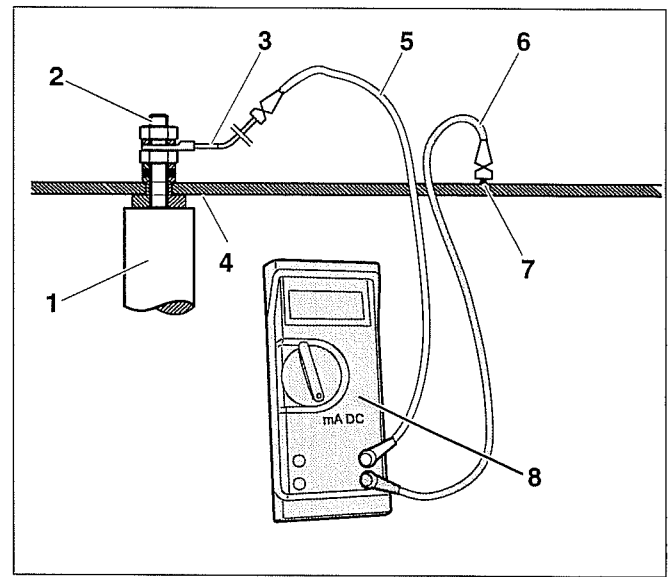

Fig. 17 Testing the anode with an multi-meter
- Remove one side of the grounding lead (Fig. 17, **Item. 3**) on the tank.
- Set multi-meter (MM) to DcmA (milli amps)
- Connect black cable (Fig. 17, **Item. 6**) of MM to grounding cable or bolt (Fig. 17, **Item. 7**).
- Connect red cable (Fig. 17, **Item. 5**) of MM to the anode.